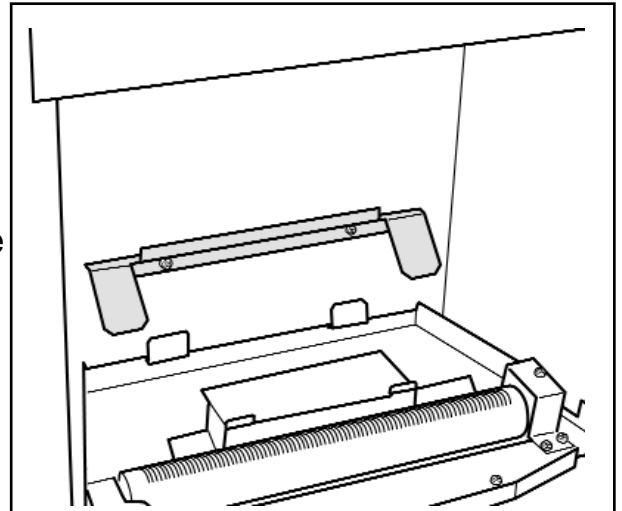

Figure 12. Fitting the rear ceramic support.
6. This appliance is supplied with a rear ceramic support bracket. Fit this using two screws supplied (See figure 12).